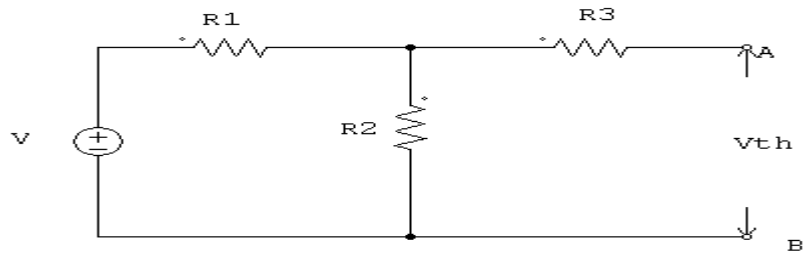

Fig.1.46
Step 2: Find open circuit voltage V_{th} . To find V_{th} , open the load resistance and find the voltage across the output terminals. Circuit is redrawn as follows in Fig.1.46.